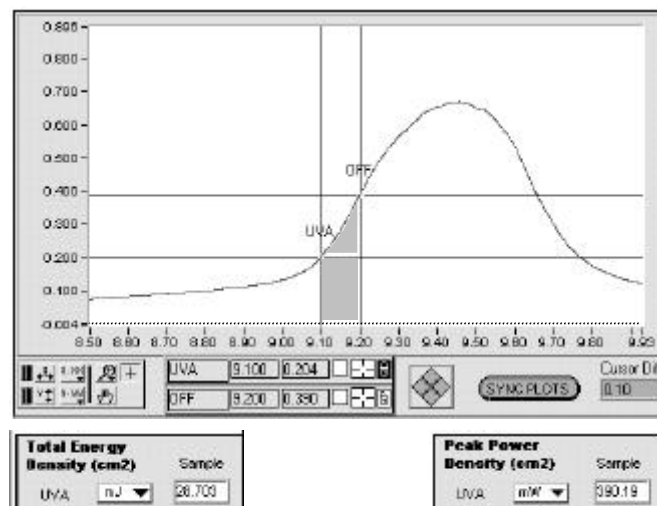

Figure 18. Cursor measurement - single trace (1)
With the cursors on, the Total Energy Density, Peak Power Density, and Temperature readings are taken from between the cursors. Figure 18, below, shows the UV(X) cursor locked to the sample UVA trace. The Reference traces are off, so the REF(X) cursor is labeled "OFF". The shaded area on the plot is the Total Energy Density between the cursors. The Peak Power Density is at the OFF cursor, the highest point between the cursors.